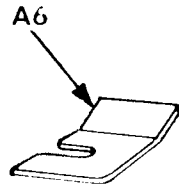

Fig. 36.
**NOTE:** For metal shank buttons with short eyelets, button holder **175667** and button holder spring **175678** are used. The spring **A6** is fitted over the button holder as shown in **Fig. 36** and, together, are attached to the clamp by means of the screw **U5** as shown in **Fig. 35**.